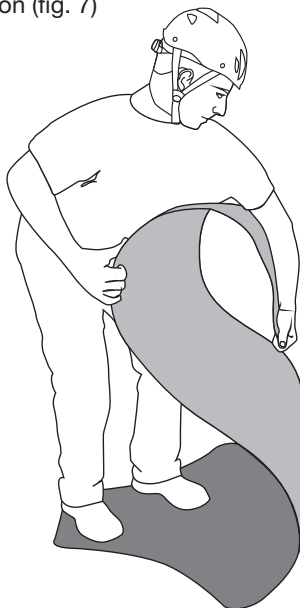

Fig. 7
- Remove the “**ROLLY**” rescue sheet from the transport bag (O) and remove the ratchet sling (N)
- Distend the support surface (A) and flatten it, rolling the ends over in the opposite direction and folding the central section (fig. 7)